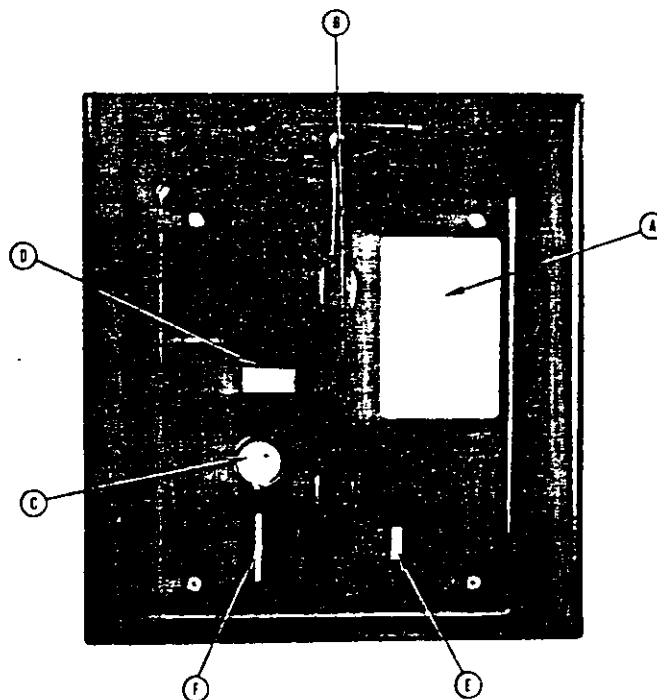

Fig. 1-Escutcheon for Manually Operated K-225 to K-2000 Circuit Breakers.
Manual and electrically operated K-Line circuit breakers are provided with an extendible escutcheon face plate. This escutcheon provides a central area for the controls which are mounted directly on the circuit breaker. The controls for manually operated circuit breakers, Fig. 1, included in the escutcheon face plate are: (a) a nameplate giving the various ratings assigned to that particular type of circuit breaker, (b) the manual operating handle, (c) the manual trip rod extension, (d) the OPEN and CLOSED position indicator, (e) the automatic trip indicator with optional facilities for alarm indication and for lockout and (f) a means for padlocking the circuit breaker in the CONNECTED, TEST or DISCONNECTED positions.
(A) CIRCUIT BREAKER NAMEPLATE (Figs. 1, 2 & 3)
(B) MANUAL CLOSING HANDLE (Fig. 1)
(C) MANUAL TRIP BUTTON (Figs. 1, 2 & 3)
(D) CIRCUIT BREAKER POSITION INDICATOR (Figs. 1, 2 & 3)
(E) AUTOMATIC TRIP INDICATOR (Figs. 1, 2, 3 & 4)
(F) PADLOCKING DEVICE (Figs. 1, 2 & 3)